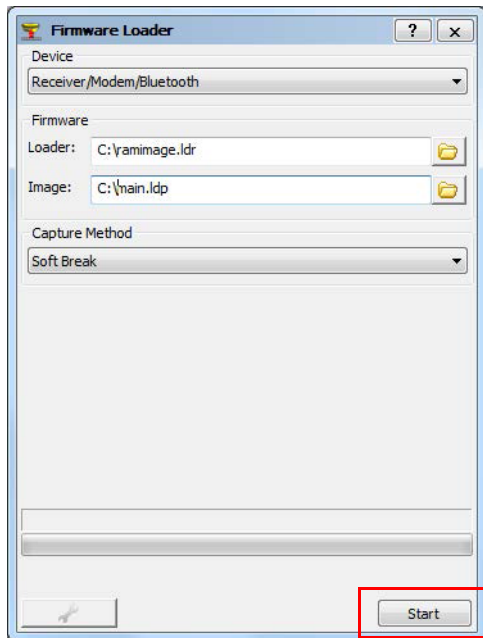

Figure 20: Upload Firmware Window
3. Click the **Firmware Loader**  icon in the TRU main window. The **Firmware Loader** window (Figure 20) displays. This window enables you to upload firmware files to the connected receiver.
6. Browse for and select the receiver board's RAM and Flash files (Figure 20).